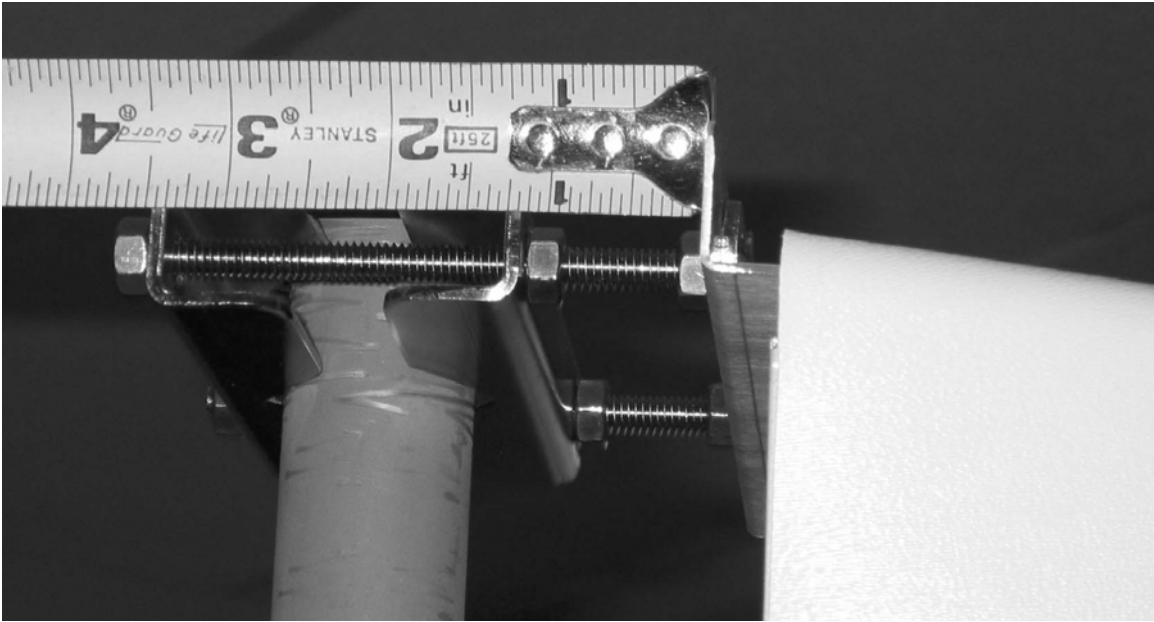

Figure 7-2: Measuring tilt at top of pipe mount.
Take a ruler and measure and write down the distance of the top of the antenna from and bracket and the bottom from the bottom bracket, as in Figures 7-2 & 7-3. Any difference represents the amount of the antenna downtilt.
- 4) Measure & record the top and bottom to determine downtilt, if any. (Figures 7-2 & 7-3)